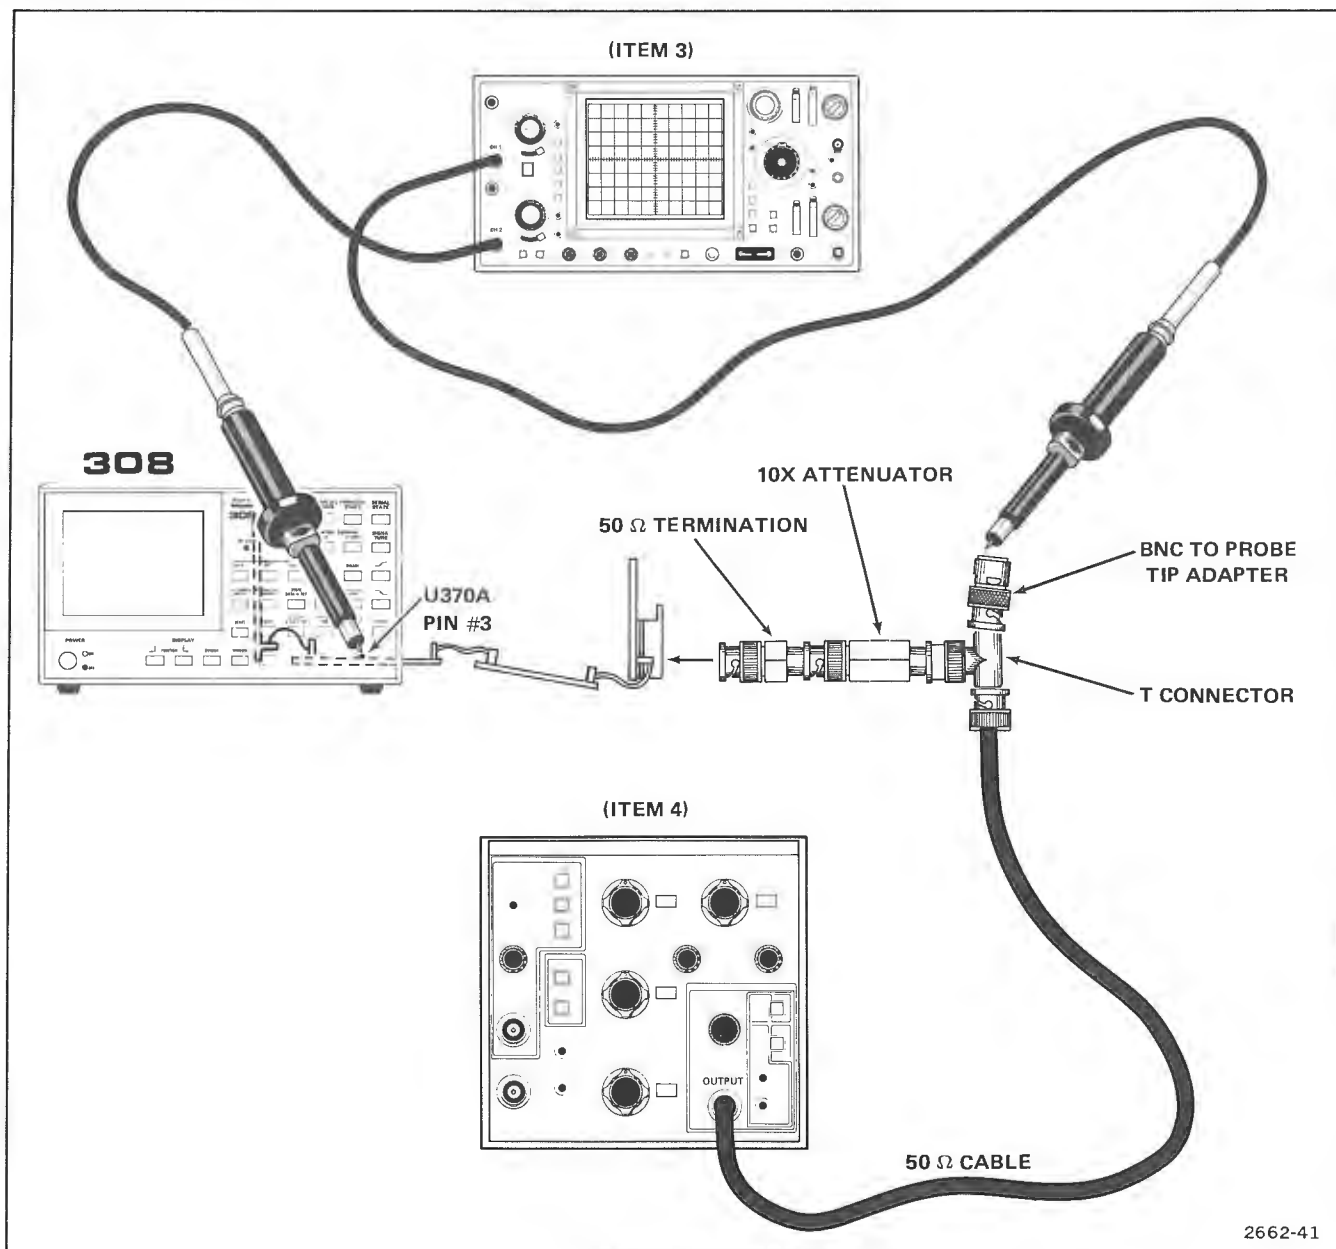

Figure 4-17. Test setup for adjusting signature data delay.
h. Disconnect the test setup and reconnect the test setup as shown in Figure 4-17.